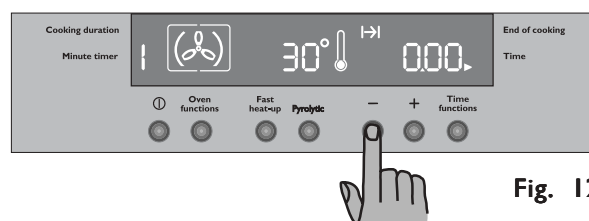

Fig. 12
- press button "-" to decrease the time until "0.00" is displayed (Fig. 12).